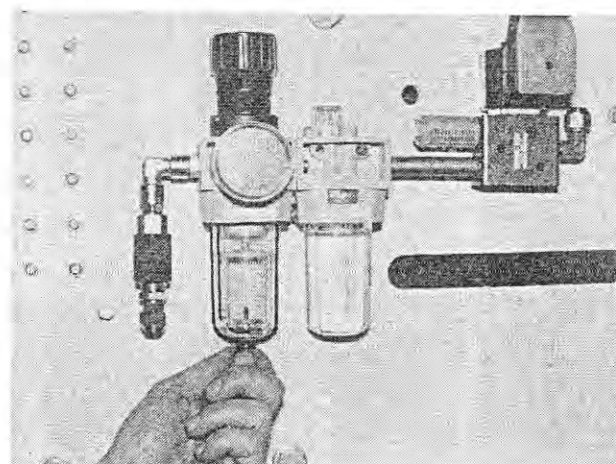

Fig. 57
1. Loosen the plug under the collecting vessel (Fig. 57) and drain the water.